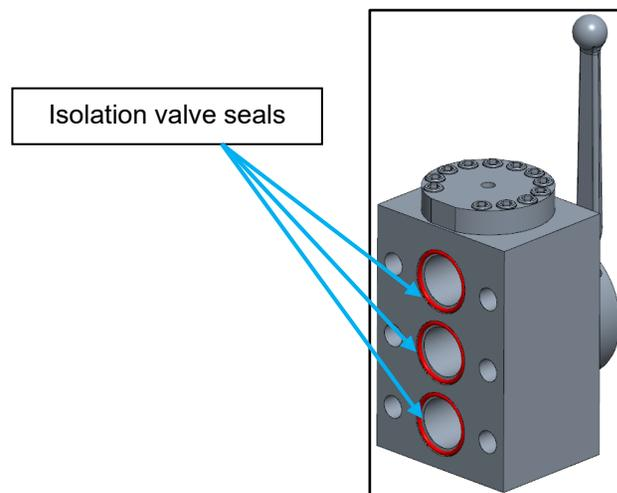

Figure 3-9. Isolation Valve Seals
5. Lubricate O-rings (3 pieces) provided in the isolation valve kit with Parker Super O-Lube or petroleum jelly and install them in the valve seal grooves (Figure 3-9).